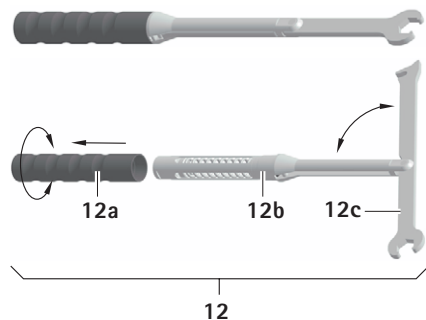

Fig. 3
- Push on the handle **12a** in the opposite direction to the arrow and screw on, see Fig. 3.